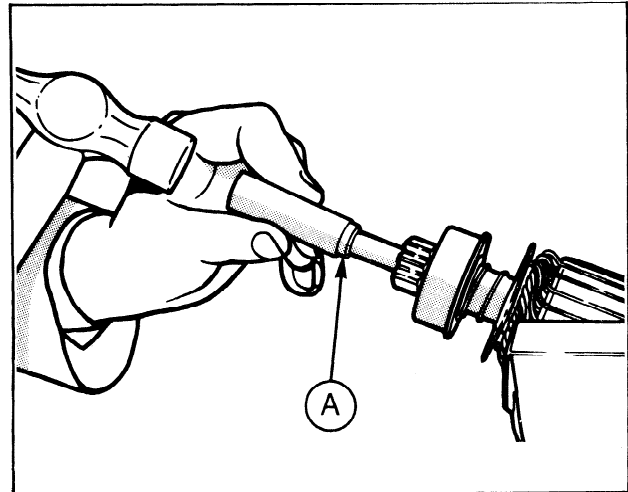

FIG. 7 Using a Suitably Dimensioned Tube Separate Thrust Collar From "C" Clip Ring.
10. To remove drive pinion assembly from armature shaft use a suitably dimensioned tube to separate thrust collar from over "C" clip, (Fig. 7). Remove "C" clip from its groove and slide thrust collar and drive pinion assembly off armature shaft.